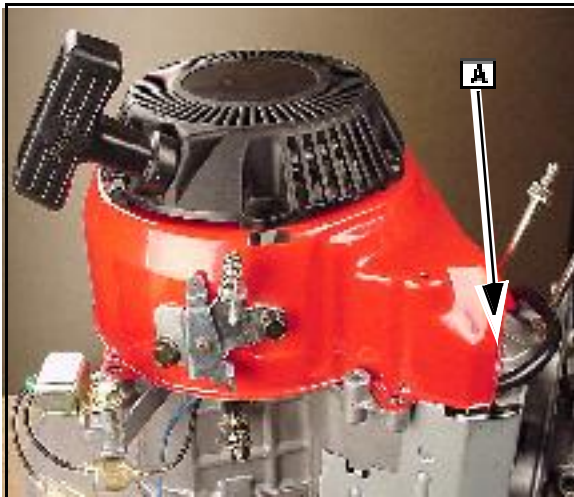

Fig. 9
10. Set the blower housing in position and check that no wires are pinched. Position spark plug lead in the contour created for it ([A] Fig. 9).